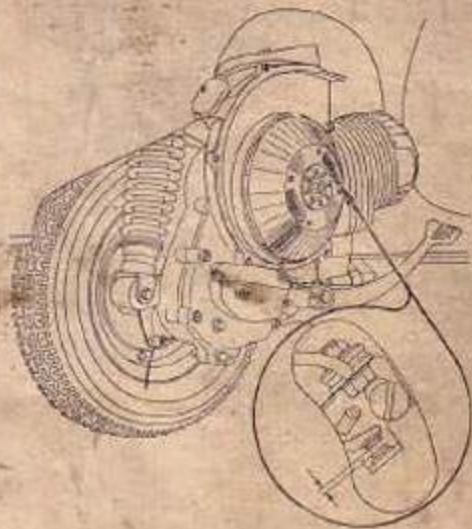

Fig. 17. Breaker points, gap 0.015".
5. Clean and adjust the contact breaker points of the flywheel magneto (see Fig. 17), to .4 mm gap (.015").